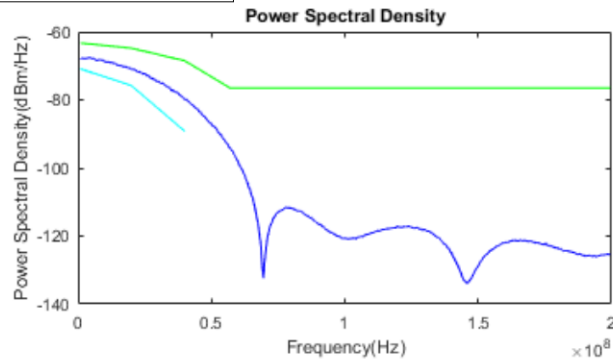

Figure 27 Top Portion of a Typical HTML Report
**Figure 27** on page 34 shows a portion of a typical **HTML Report**. Below this segment are waveforms and more test data.